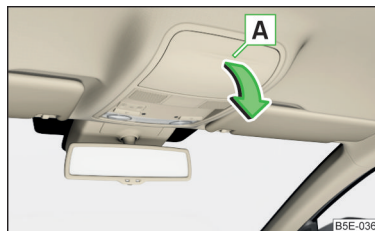

Fig. 89
- Press on the lid of the glasses storage box in area **A** » Fig. 89.
- Swivel the lid of the glasses storage box against the direction of the arrow » Fig. 89 until it audibly clicks into place.